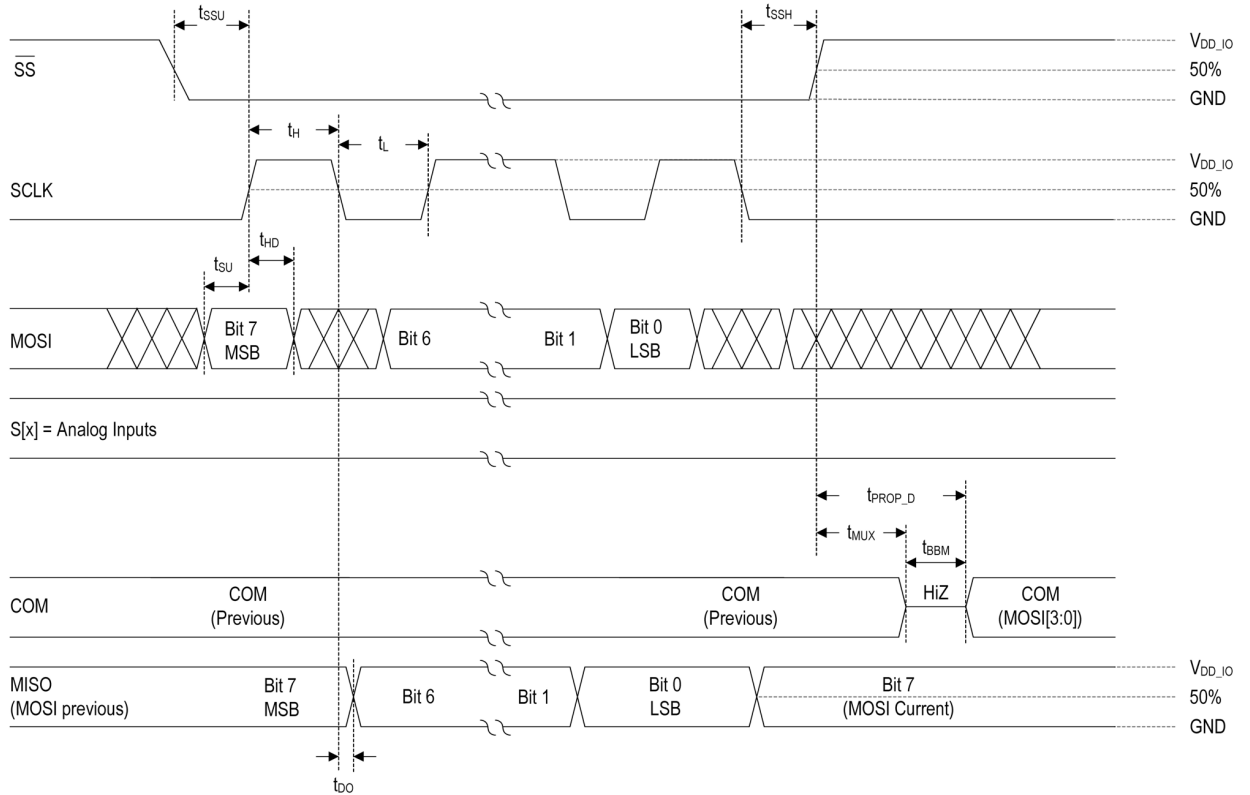

Figure 5. UT16MX117 Timing Diagram
- 1) See figure 5, Multiplexer Serial Timing (UT16MX117), for detailed timing.